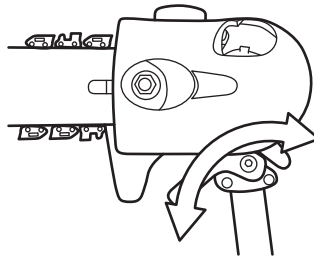

Fig. 11
b). Adjust the pruner head to required position and then release the locking lever (8). (See Fig. 11)